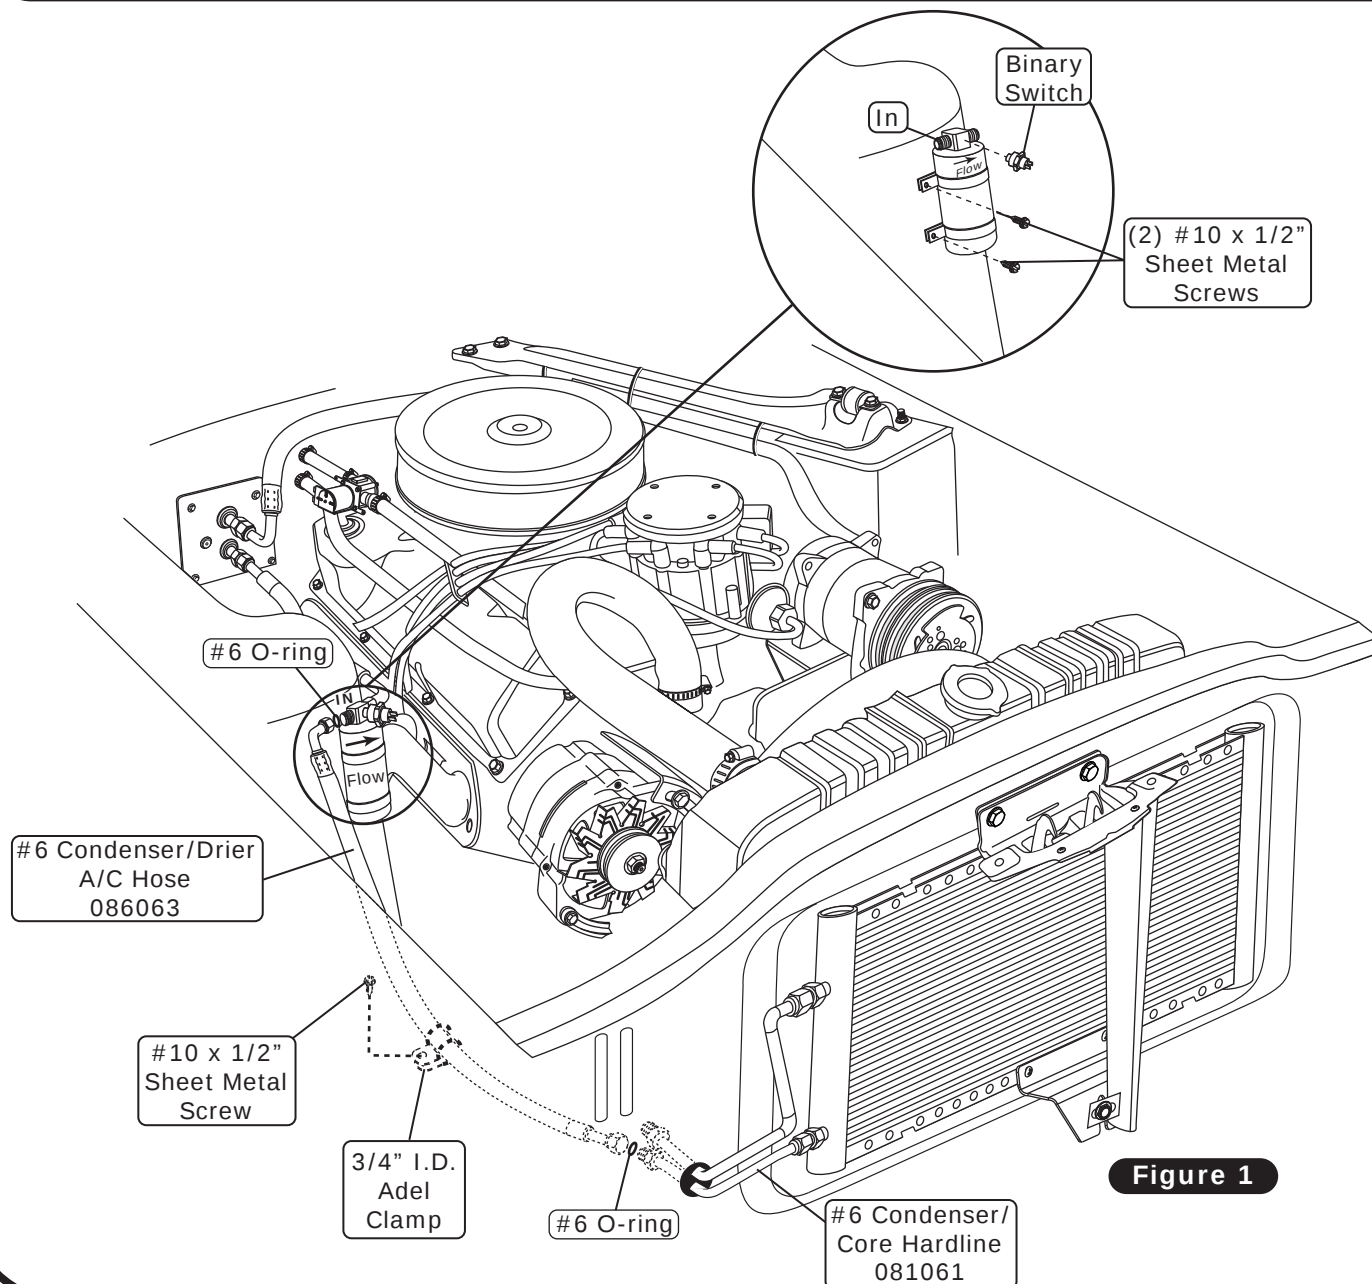

Figure 1
1. Install the drier clamps onto the drier, then attach the drier to the shock tower using (2) #10 x 1/2" sheet metal screws as shown in Figure 1, below. **NOTE: Refrigerant flow through drier is IN from condenser, OUT to evaporator.**
2. Install the binary switch onto the drier as shown in Figure 1, below.
3. Lubricate (2) #6 O-rings as shown in Lubricating O-rings, Page 8. Install the #6 condenser/drier A/C hose onto the drier and the #6 condenser/core support hardline as shown in Figure 1, below. Tighten fittings as shown in Lubricating O-rings, Page 8.
4. Install a 3/4" I.D. Adel clamp onto the #6 A/C hose using a #10 x 1/2" sheet metal screw as shown in Figure 1, below.